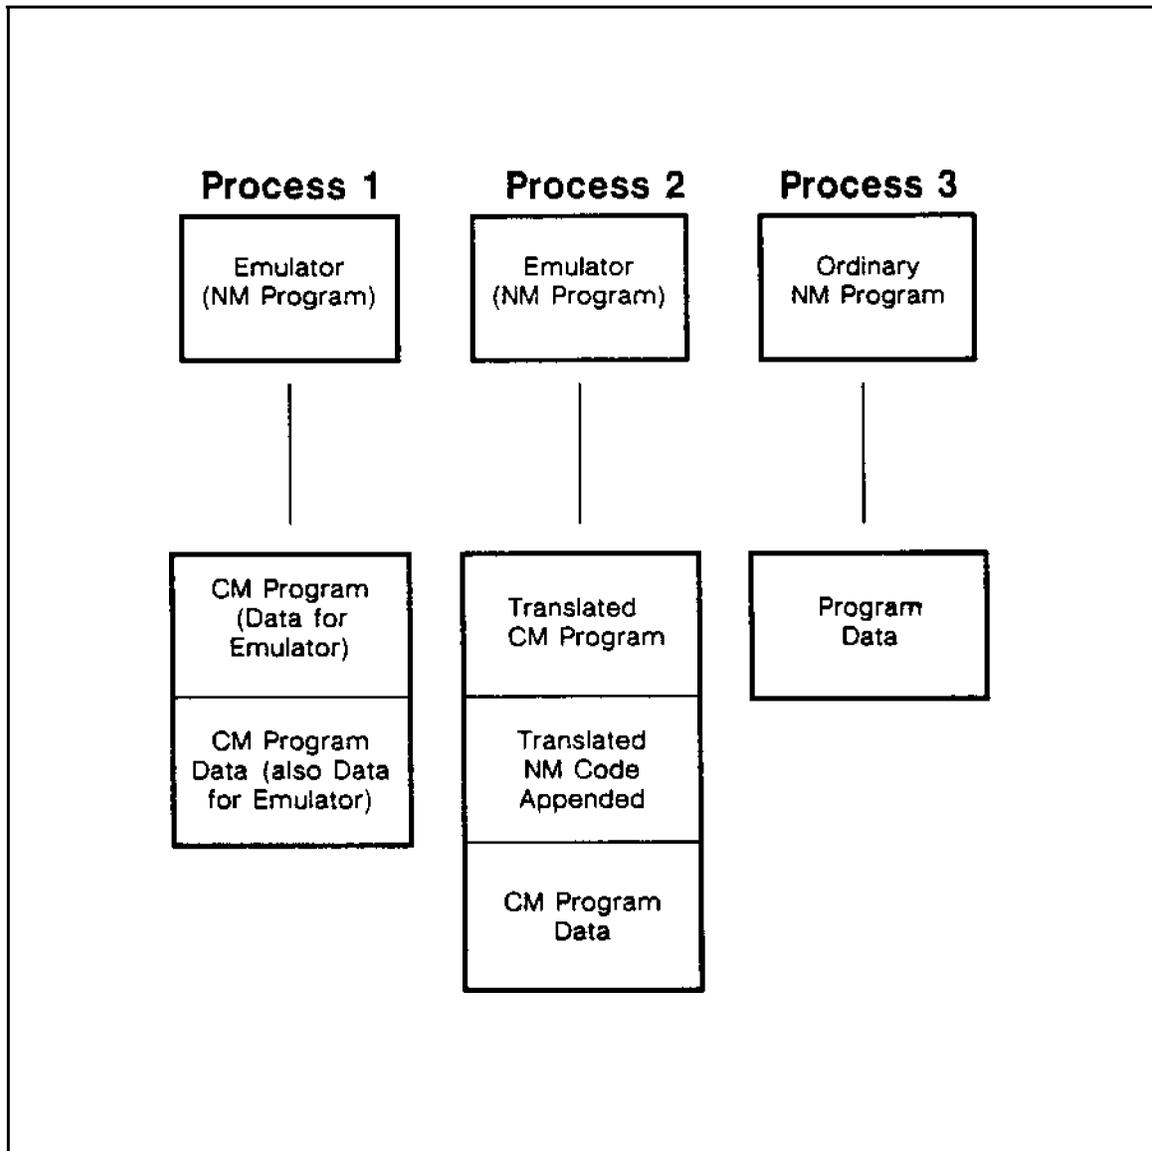

Figure 1-1. MPE XL Execution Environment
Figure 1-1 illustrates the place of emulation, translation, and full recompilation within the Native Mode (NM) operating environment. The figure shows three processes running independently under MPE XL:
The translated program in Figure 1-1 is the result of a one-time translation process illustrated in Figure 1-2. The translation process is invoked by issuing the command: `:OCTCOMP CMprogrname`.